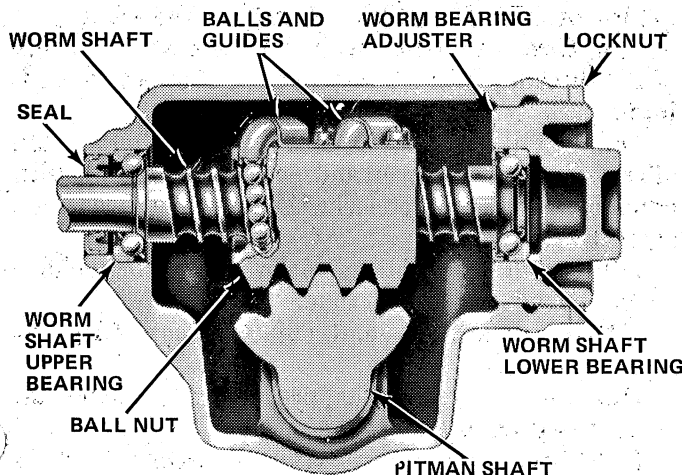

Fig. 2K-1 Recirculating Ball Manual Steering Gear
The manual steering gear used on Jeep vehicles is a recirculating ball design (fig. 2K-1). The steering gear wormshaft and ball nut are in line with the steering shaft in the column. Steering ratio of this unit is 24:1.
- (1) Raise vehicle and remove crossmember cover, if equipped.
- (2) Check and correct steering gear mounting bolt torque, if necessary.
- (3) Mark pitman arm and steering gear pitman shaft for assembly reference.
- (4) Remove pitman arm nut and remove pitman arm using Puller J-6632 (fig. 2K-2).
- (5) Loosen pitman adjusting screw locknut and back off adjusting screw 2 or 3 turns.
- (6) Remove horn button and cover.
- (7) Slowly turn steering wheel in one direction until stopped by gear; then turn wheel back 1/2 turn.